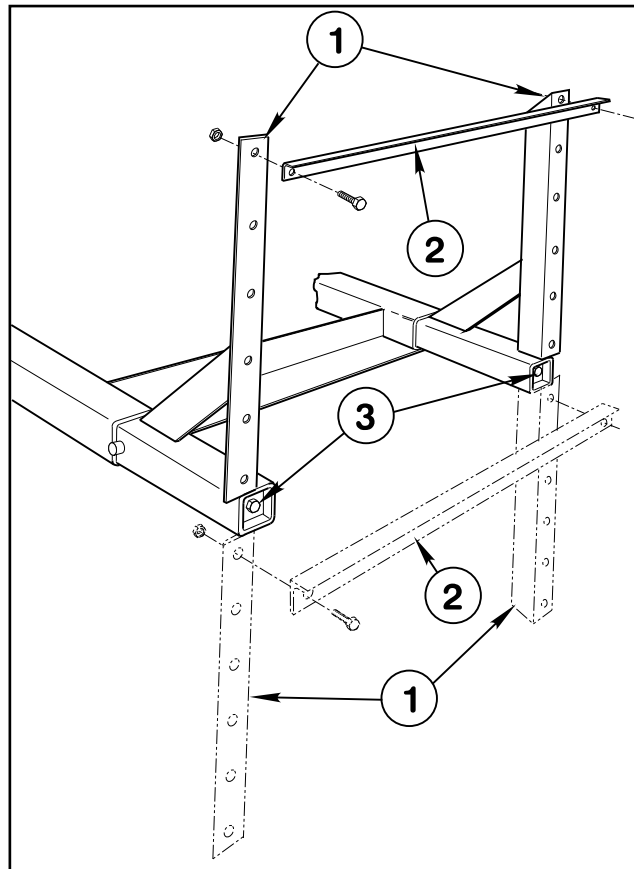

FIG. 5
NOTE: Note the position of the angle member of the Boom Mount Assemblies, in relation to the tube member. They must be positioned as shown, for the mounting of the Cross Support Angle. See FIG. 5.
- 1. Apply a heavy coating of grease to the tubes of the two Boom Mount Assemblies and insert them into the Vehicle Frame as shown in FIG. 5.